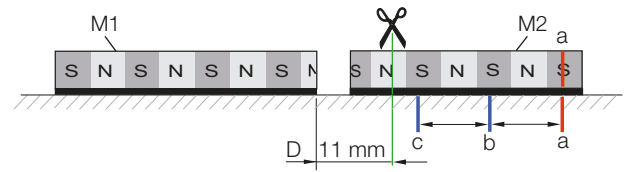

Fig. 4-11: Cut at 11 mm
7. Cut tape M2 so that the resulting distance D between both tapes is 11 mm (width of 1 pole pair + 1 mm for fine positioning). The gap between the two tape ends indicates where to cut (Fig. 4-11).